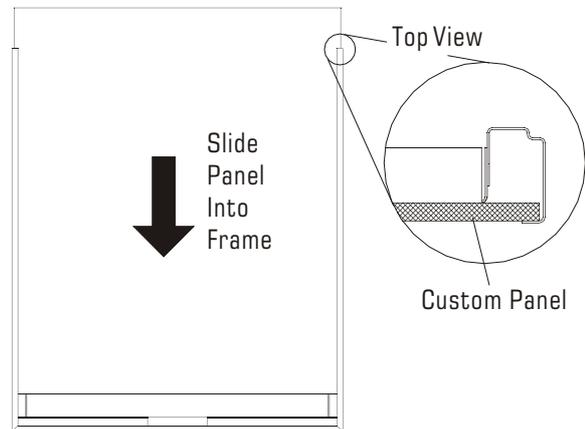

Figure 3
- Slide the 1/4" custom panel into the channel between the trim and the steel panel (figure 3).